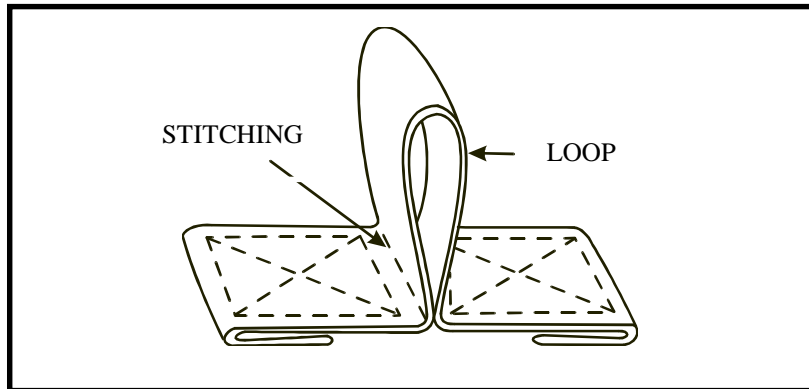
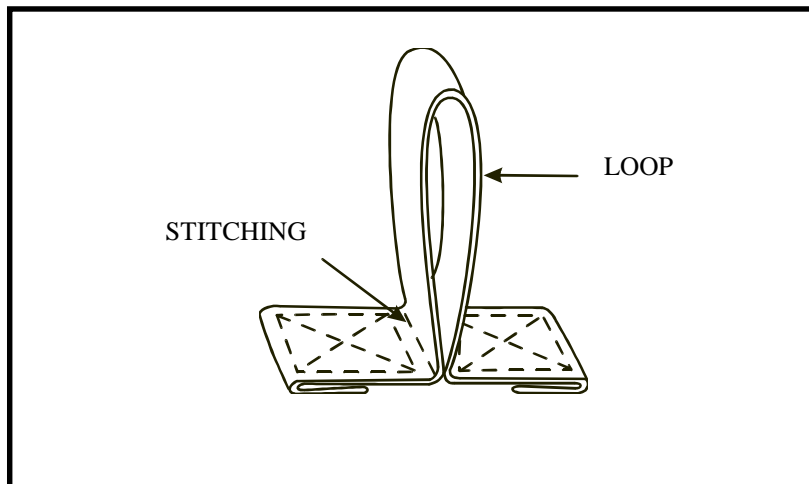
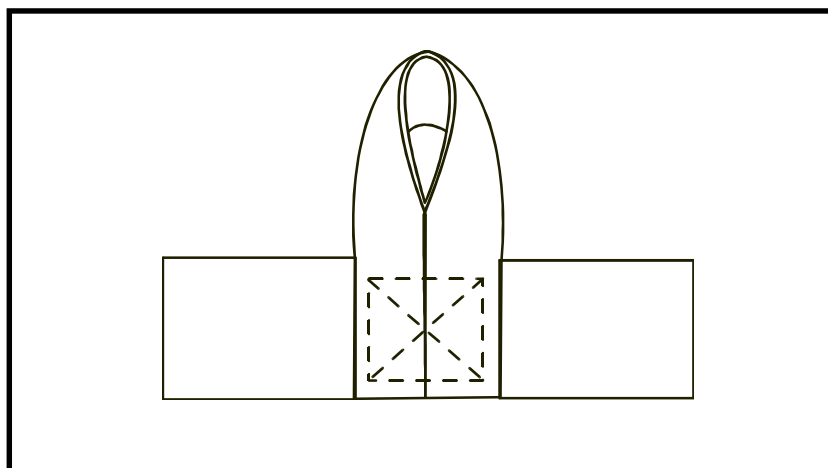

Figure 13-10. Short loop
Figure 13-11. Two-ply long loop
Figure 13-12. Edge-type loop
b. **Short Loop.** The short loop (Figure 13-10) sticks out a short distance from the canvas item. To make a short loop--
- (1) Cut a piece of webbing. Allow for a short loop and the turnunder at each end.
- (2) Fold the webbing in half to form a little loop.
- (3) Sew a seam across the webbing at the base of the loop.
- (4) Turn under the ends.
- (5) Sew the webbing to the canvas item with X-shaped seams.
c. **Two-Ply Long Loop.** The two-ply long loop (Figure 13-11) is used where a strong, lengthy loop is needed. To make this loop--
- (1) Cut two pieces of webbing. Allow for a long loop and the turnunder at each end.
- (2) Sew the two pieces of webbing together with a row of stitches along each edge.
- (3) Fold the webbing to form a long loop.
- (4) Sew a seam across the webbing at the base of the loop.
- (5) Turn under the ends.
- (6) Sew the webbing to the canvas item with X-shaped seams.
d. **Edge-Type Loop.** The edge-type loop (Figure 13-12) is used on tarpaulins for tie-line fastenings. It is also used as the female half of a toggle fastener. To make this loop--
- (1) Cut a piece of webbing twice the length of the planned loop plus enough to form a turnunder at each end.
- (2) Turn under the ends.
(3) Place the webbing on the canvas item so that the ends of the webbing are even and the inside edges touch.
(4) Sew the webbing to the canvas item with one X-shaped seam.